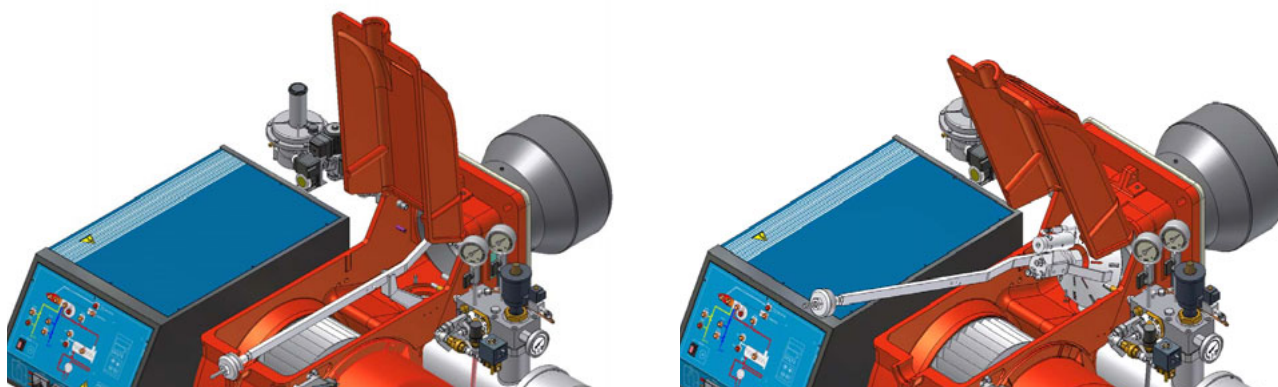

Fig. 28
- Unscrew the flexible hoses from the gun (burner side) and remove the whole assembly as shown on Fig. 28.